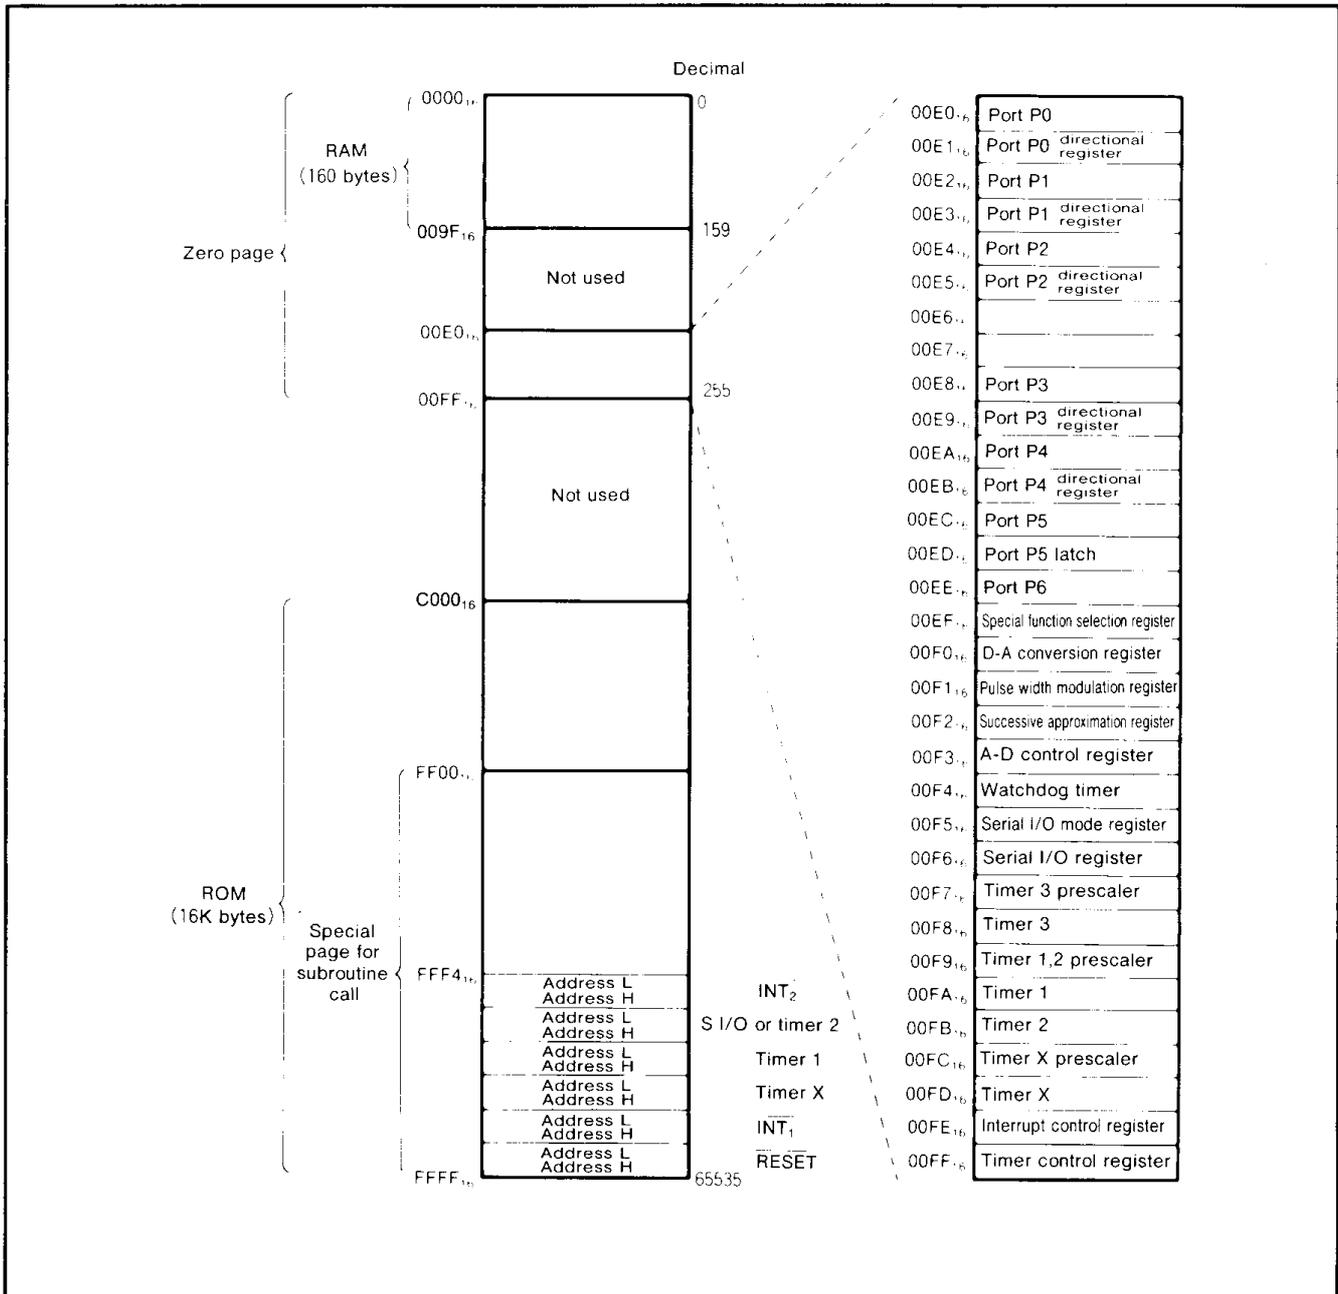

Fig.1 Memory map
The memory map is shown in Figure 1. The M50964-PGYS is mounted an EPROM instead of an internal ROM.
- (1) In case of the M5L2764K or the M5L27128K EPROM use the following areas (refer to Figure 1):
- (2) The M50964-PGYS has no options as the M50964-XXXSP/M50963-XXXSP. But, the M50964-PGYS can use the STP instruction.